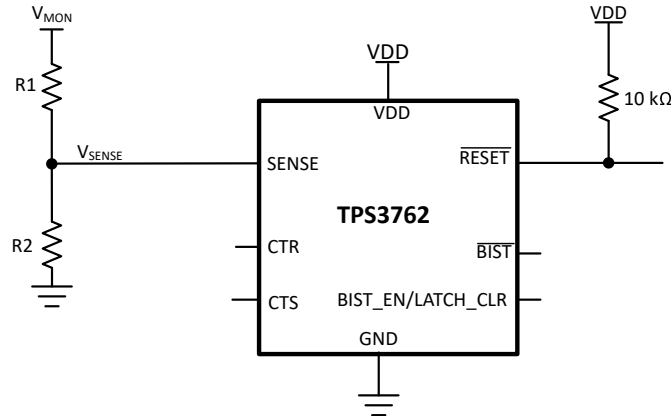

Figure 8-1. Adjustable Voltage Threshold with External Resistor Dividers
Figure 8-1 illustrates an example of how to adjust the voltage threshold with external resistor dividers. The resistors can be calculated depending on the desired voltage threshold and device part number. TI recommends using the 0.8 V voltage threshold device when using an adjustable voltage variant. This variant bypasses the internal resistor ladder.
For example, consider a 12 V rail, V_{MON} , being monitored for overvoltage (OV) using of the TPS3762D02OVDDFR variant, as shown in Figure 8-1. The monitored OV threshold, denoted as V_{MON+} , is the desired voltage where the device asserts the reset. For this example $V_{MON+} = 35$ V. To assert an overvoltage reset the voltage at the sense pin, V_{SENSE} , needs to be equal to the input threshold positive, V_{ITP} . For this example variant $V_{SENSE} = V_{ITP} = 0.8$ V. Using R_1 and R_2 the correlation between V_{MON+} and V_{SENSE} can be seen in Equation 8. Assuming $R_2 = 10$ k Ω , and R_1 can be calculated as $R_1 = 427.5$ k Ω .